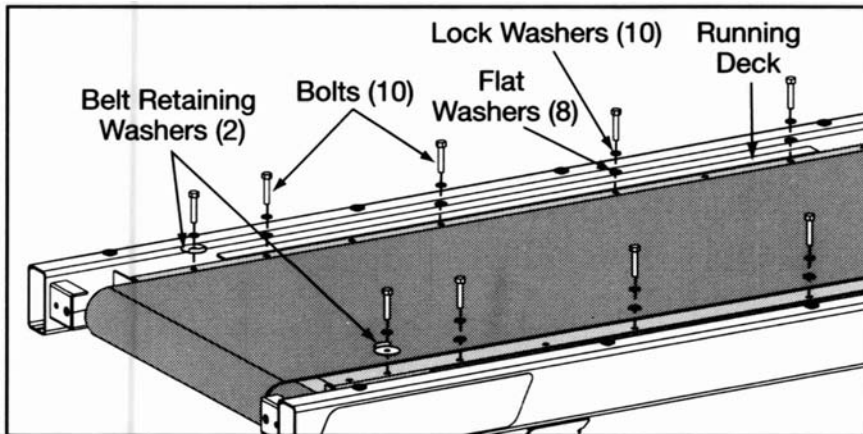

Figure 4
- A. Remove the ten bolts, eighteen washers and two belt retaining washers which hold the deck in place. Set these aside. See Figure 4.